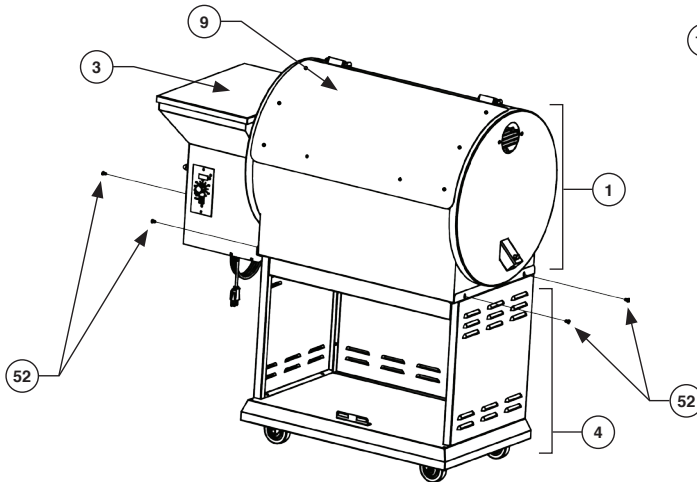

FIG 5
Uplift the Chamber (1) on the Body Frame (4). Make sure that the Chamber (1) is between the left and right plate of the Frame (4). Align the chamber holes with the plate holes and secure with  $\frac{1}{4}$ -20\*  $\frac{1}{2}$  Bolt (52). As shown in FIG 5.